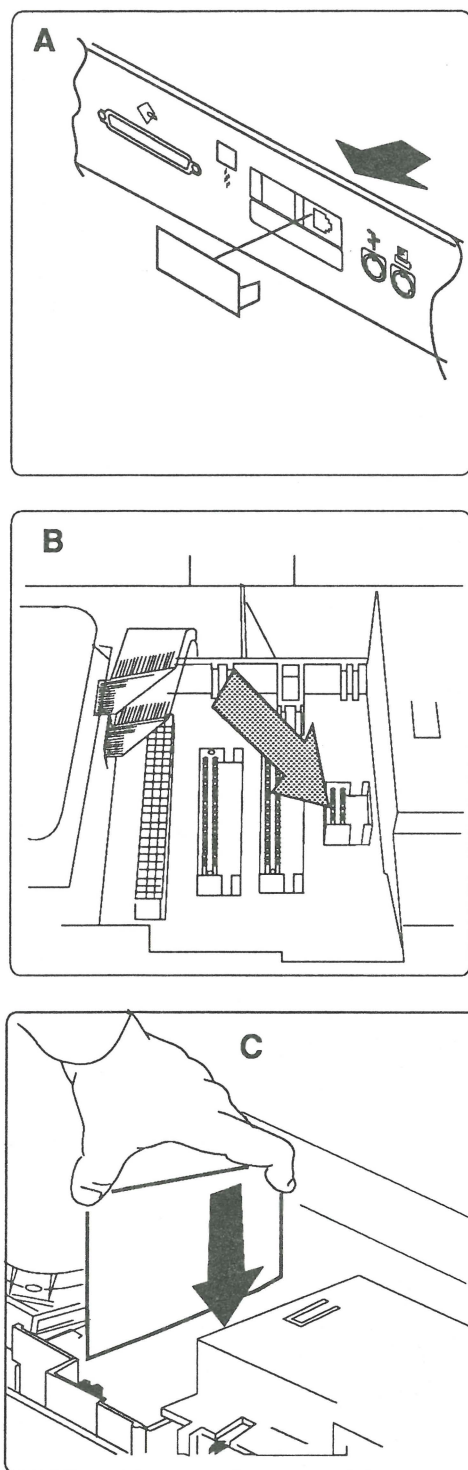

FIGURE 6
3. **Figure 6-A.** Remove the modem cap by pushing it out through the rear of the computer.
4. **Figure 6-B.** Locate the modem card connector.
5. **Figure 6-C.** Position the card over the connector and plug in the card. Make sure the card is on the right side of the modem gasket.